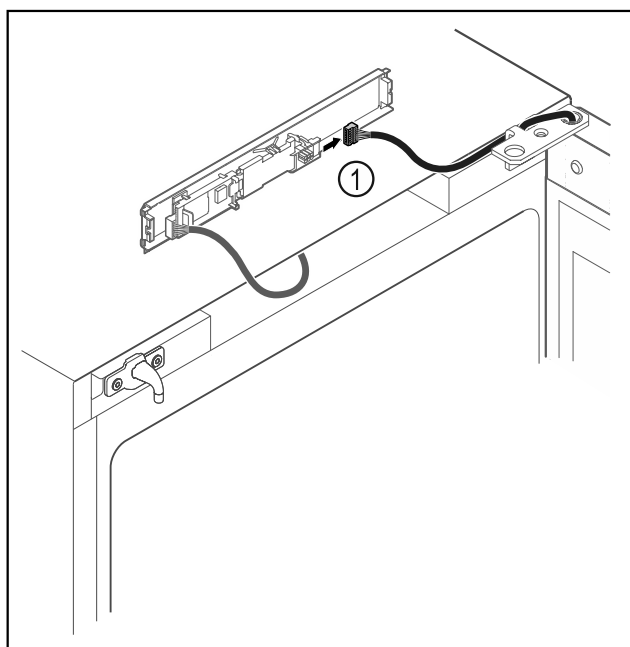

Fig. 4
- Disconnect the plug Fig. 4 (1) from the circuit board.